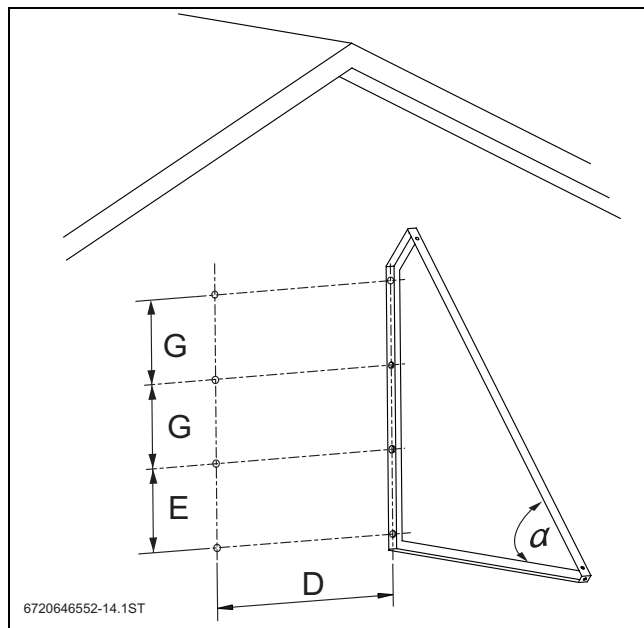

Fig. 22 Hole positions for the angle section frames
▶ Transfer the positions of holes to be drilled onto the wall (→ Fig. 22, Tab. 14).